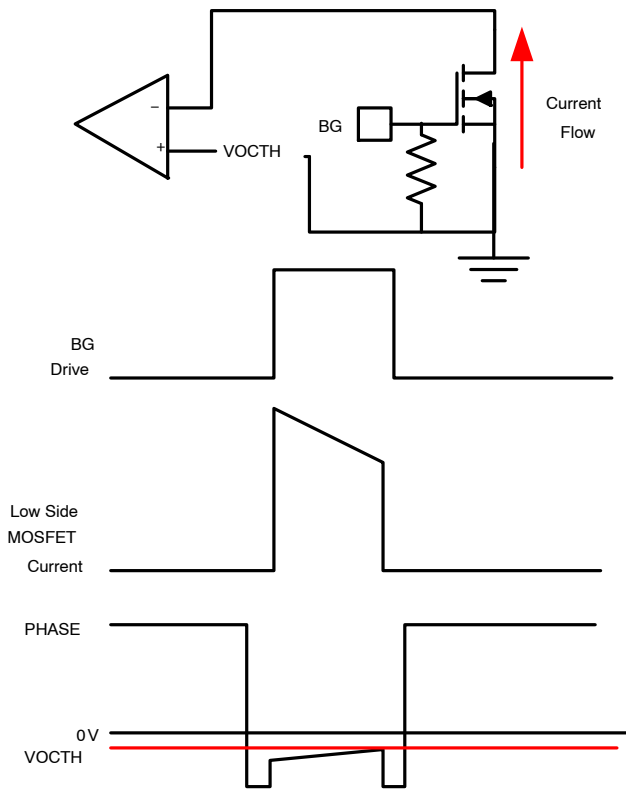

Figure 20. Current Limit Trip
In case of a short circuit or overload, the low-side (LS) FET will conduct large currents. The regulator will latch off, protecting the load and MOSFETs from excessive heat and damage. Low-side $R_{\text{DS(on)}}$ sense is implemented at the end of each LS-FET turn-on duration to sense the current. While the low side MOSFET is on, the V_{SW} voltage is compared to the user set internally generated OCP trip voltage. If the V_{SW} voltage is lower than OCP trip voltage, an overcurrent condition occurs and a counter counts consecutive current trips. If the counter reaches 7, the PWM logic and both HS-FET and LS-FET are turned off. The regulator has to go through a Power On Reset (POR) cycle to reset the OCP fault as shown in Figure 20.